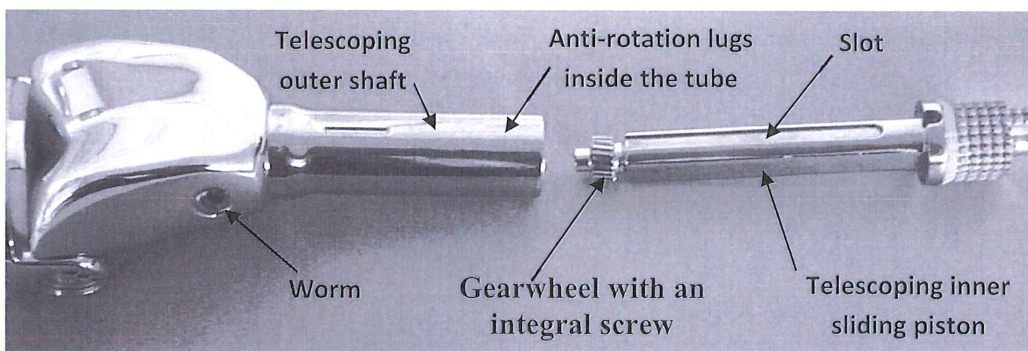

Fig. 02 Minimally Invasive Grower components
- 3.1 The gearbox mechanism (worm and gearwheel) is designed to disengage by pulling the telescopic components apart once the 2mm Locking Screw has been disengaged. This disassembly may be required during implantation or revision. Figure 02 below Outlines a detailed breakdown of components in this device.